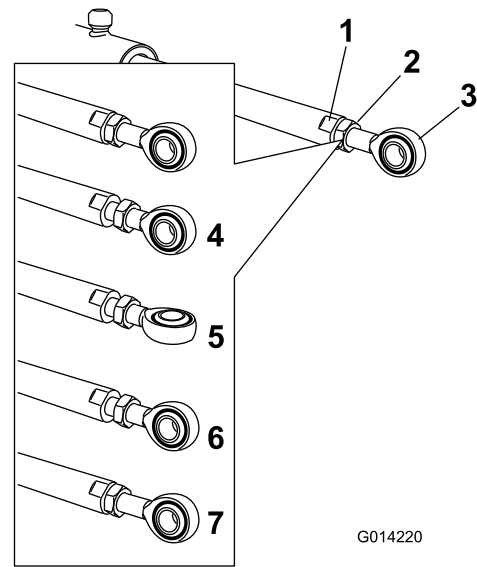

Figure 94
5. Use a wrench on the flat sides of the actuator rod to immobilize it, then loosen the jam nut to allow the eyelet rod to be adjusted (Figure 94).
6. Turn the eyelet rod in the actuator rod to shorten or lengthen the extended actuator to the desired position (Figure 94).